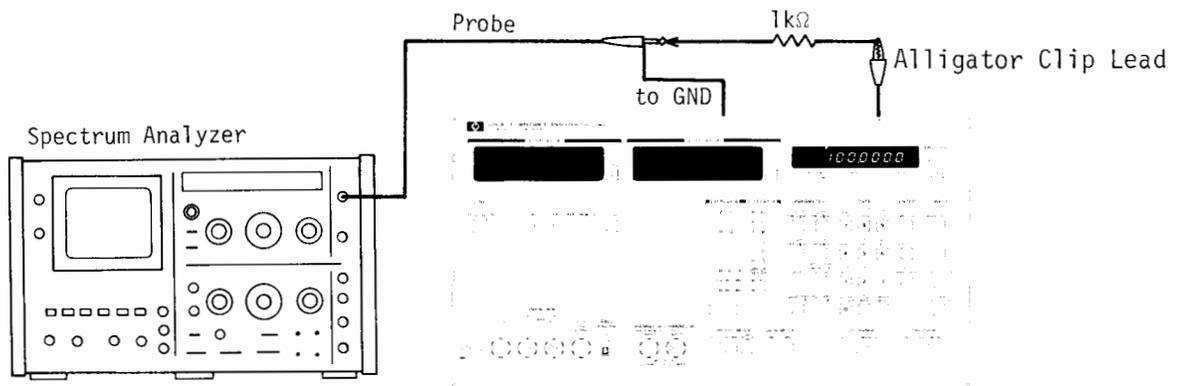

Figure 5-4. A4 API Adjustment Setup.
- a. Connect the high input of the Spectrum Analyzer to A4TP1 through the 1 kΩ resistor and connect the low input to the chassis as shown in Figure 5-4.